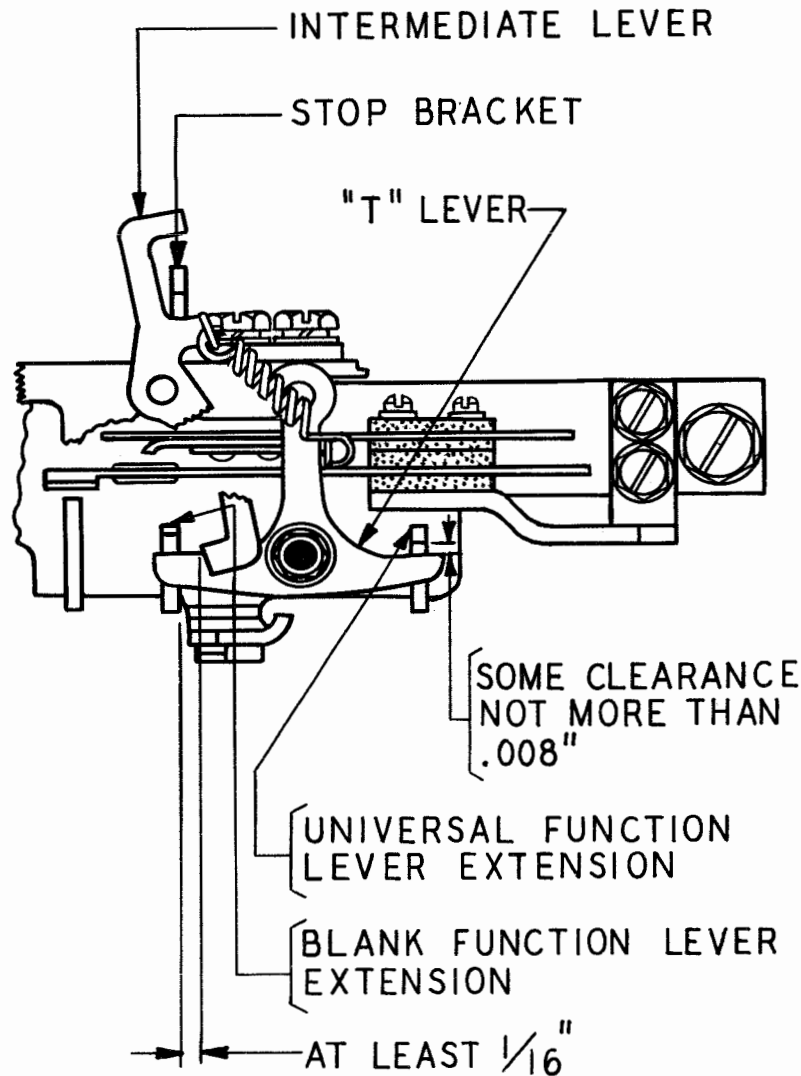

Figure 54
completely selected and the function-bail roller is just leaving the cam surface of the blank-function lever. See Figure 54.
2.128 Intermediate-lever Toe: Left end of intermediate-lever toe should be to the right of the blank-function-lever extension by at least 1/16 inch when the letter T combination is set up and mainshaft is rotated until the printing bail is in its extreme forward position. Gauge by eye. See Figure 54.